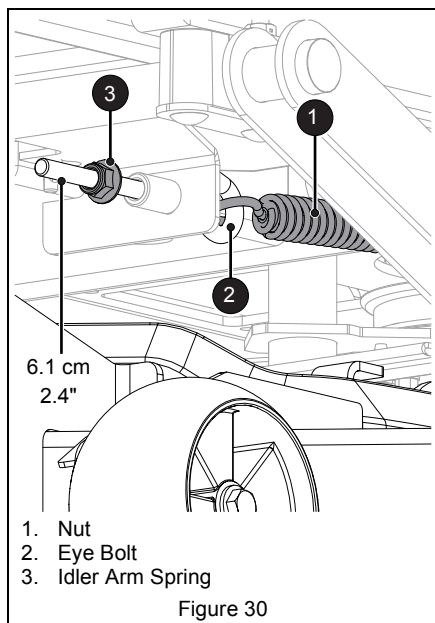

Figure 30
4. Loosen nut on eye bolt and disconnect idler arm spring. See Figure 30.
5. Reconnect idler arm spring to eye bolt and secure bolt to unit with nut. Tighten until the nut is 6.1 cm (2.4") from the threaded end of the eye bolt. See Figure 30.